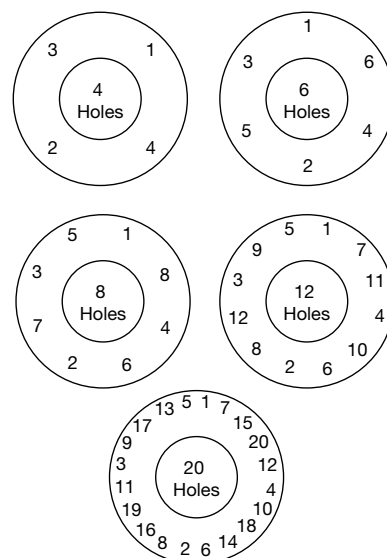

Figure 36: Bolt Tightening Patterns
16. Apply a small quantity of lubricant to the spring washer bearing surface of the spindle (15).
17. Place the spring assembly on the spindle (15).
18. Place a new bonnet gasket (12) in the base (1) before installing the bonnet (11). Uniformly tighten the stud nuts (14) using the appropriate bolt tightening pattern (see Figure 36). Determine the required torque for the subject valve (see Table 10). Determine the torque values for each round of the pattern (see Table 11). The last round ensures that all stud nuts are at the required torque.
19. With the adjusting screw locknut (20) assembled near the top of the adjusting screw (19), apply a small quantity of lubricant to the spherical end and threads of the adjusting screw.
20. Thread the adjusting screw (19) into the bonnet (11) until it contacts the spring washer (17).